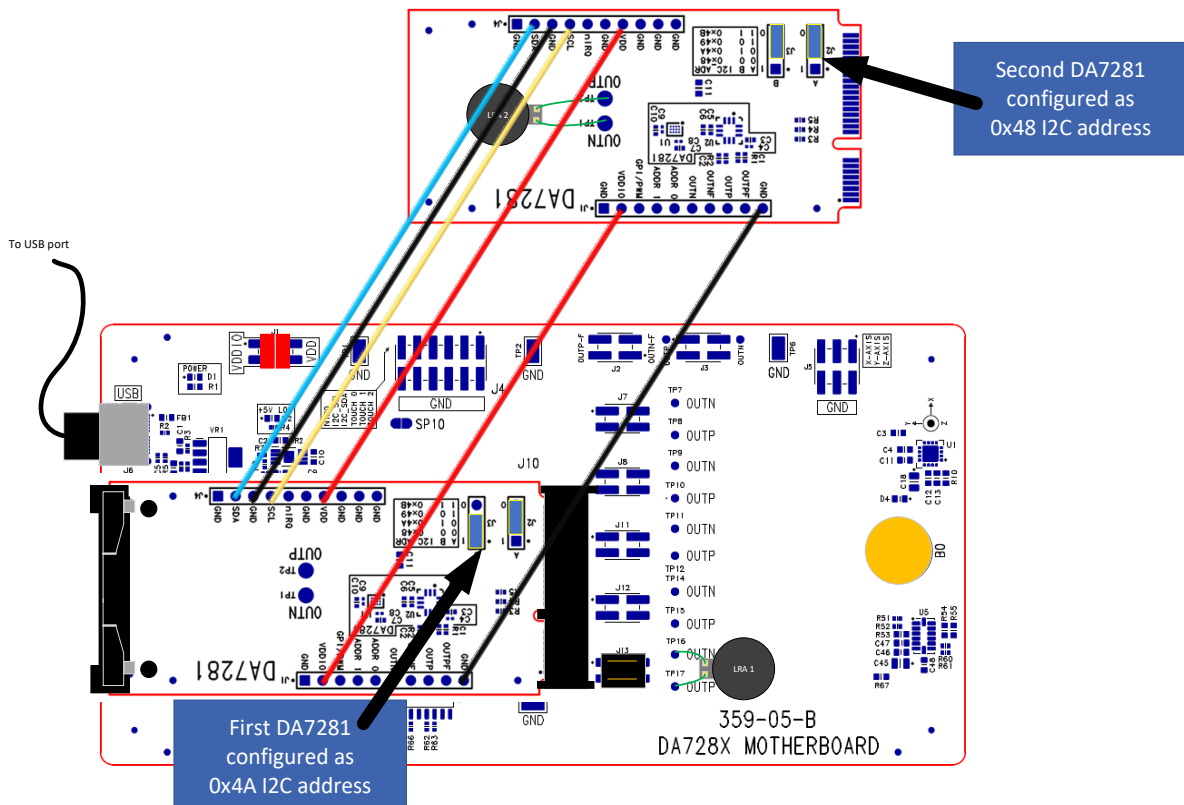

Figure 73. DA728x motherboard configuration for multiple DA7281 daughterboards
The DA7281 is a haptics device in the DA728x family that supports multiple I2C addresses (for detailed information, see Ref. [2]). An example of two DA7281 connected to the same I2C bus is shown in Figure 73. This shows the DA728x motherboard with a DA7281 daughterboard plugged into J10 and an additional DA7281 daughterboard wired externally sharing the same I2C bus. It is also possible to set up this example in a similar way with the DA7280 board and the DA7281 board.
In this hardware configuration, you can set up and control two different LRAs. SmartCanvas DA728x GUI can communicate with the DA7281 daughterboard plugged into J10 of the DA728x motherboard using the slave address 0x4A and with the other externally wired DA7281 daughterboard using the slave address 0x48. Both these slave addresses are configured using the J2 and J3 jumpers that are located on the DA7281 daughterboards as shown in Figure 73.
- For the hardware configuration shown in Figure 73, the Bus Interface should be set to 0x94 to control the DA7281 daughterboard connected to J10 of the DA728x motherboard and 0x90 for the externally wired DA7281 daughterboard. When you switch Bus Interface addresses, ensure **Polling** is enabled so that the SmartCanvas DA728x GUI refreshes the current state of the haptic driver.